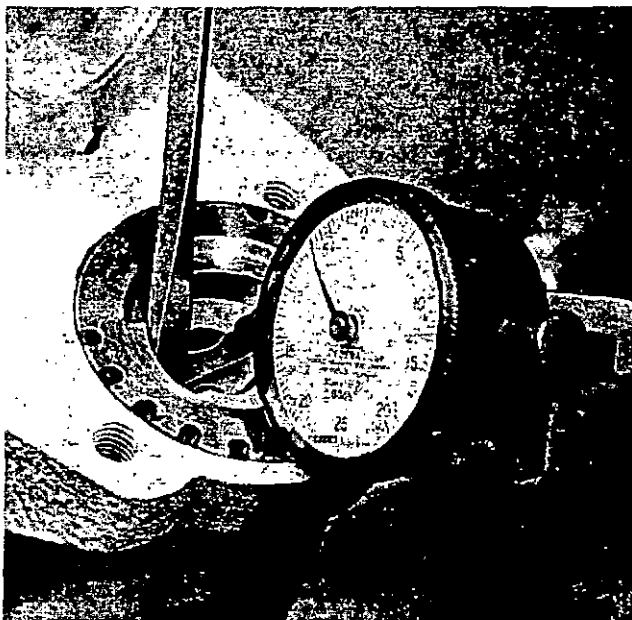

Figure 122—Checking backlash of pump drive gear
3. Use a dial indicator gage to check backlash of the pump drive gear. Measure at the drive slot with the gage positioned approximately at the pitch diameter of the gear. Backlash should be .004 to .006 inch. (Fig. 122.)